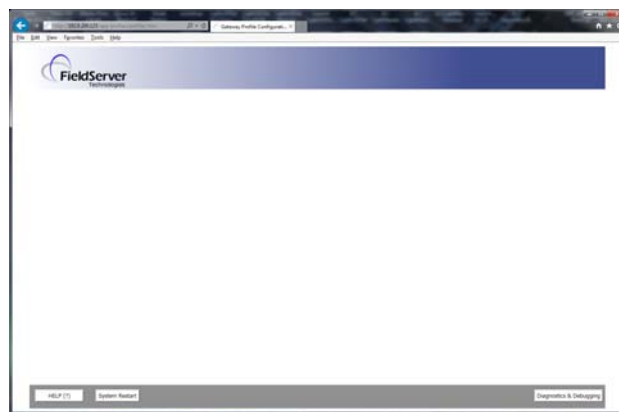

Figure 1 FieldServer Opening GUI Screen
3. Open your web browser and enter IP address 192.168.1.24 to login to the device GUI. Figure 1 shows the FieldServer GUI opening screen.